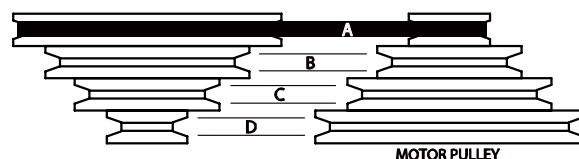

Figure 6
- Select the speed using the placard on the cover. Put the V-belt in the pulley grooves of the pulley for the desired speed. Refer to *Figure 6* for belt locations and the speeds available.